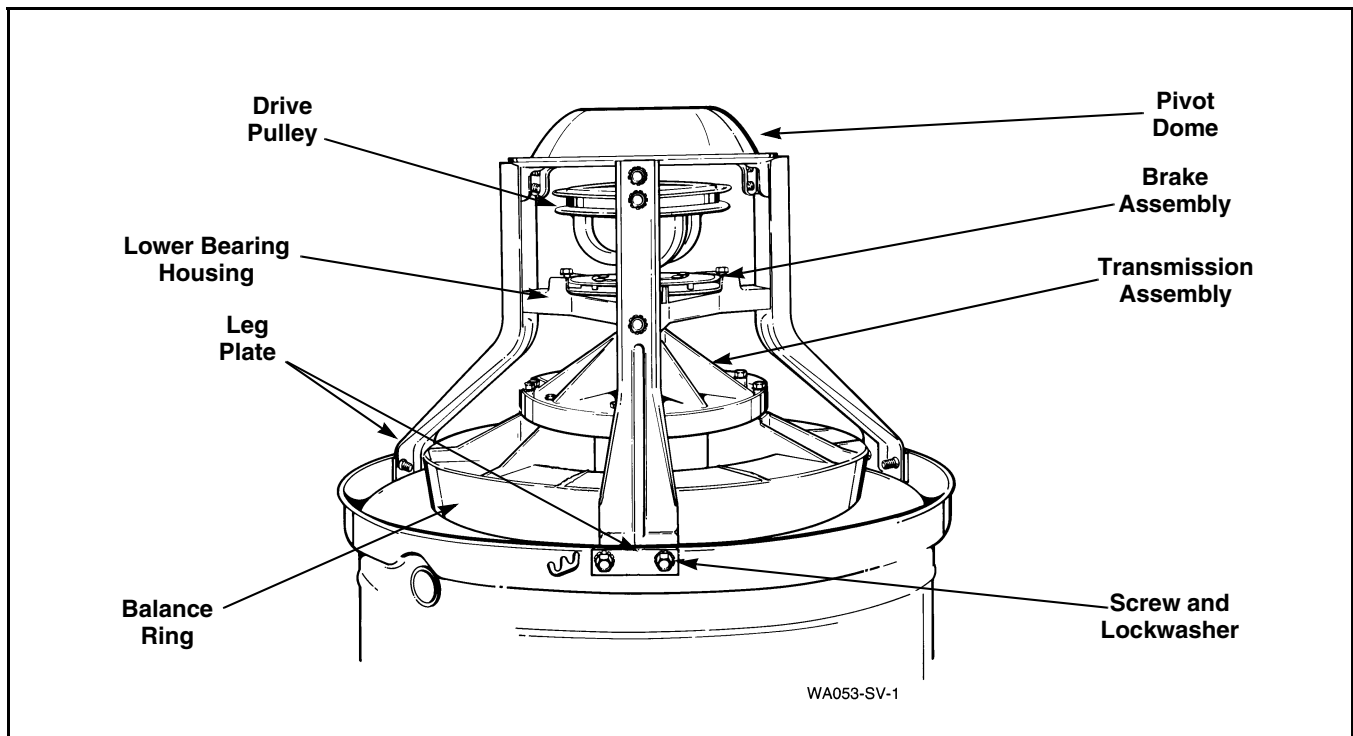

Figure 34
- s. Remove screws and lockwashers holding each support leg to outer tub. Refer to *Figure 34*. Then lift transmission, balance ring and pivot dome off tub.